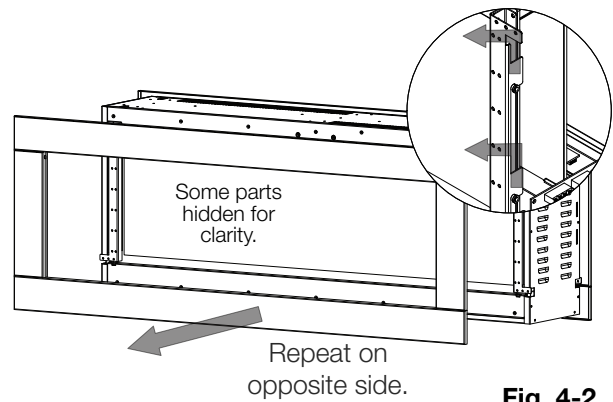

Fig. 4-2
- Have 2 people lift the front trim off the hooks located inside the firebox (**Fig. 4-2**). Place front trim face down on a soft, non-abrasive surface.